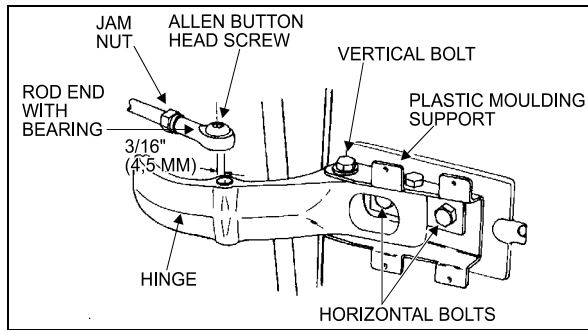

FIGURE 19: UPPER DOOR HINGE (COACH)
2. Remove the Allen button head screw and the washer retaining the rod end with bearing to the upper hinge. See figure 19.
3. Remove the Allen button head screw and the washer retaining the ball and socket rod to the upper hinge. See figure 19.
3. Remove the Allen button head screw and the washer retaining the rod end with bearing to upper hinge. See figure 19.